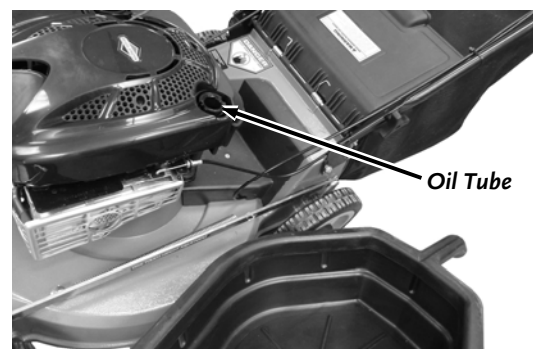

Figure 18
2. Tip the mower onto its side (with the air filter up) to drain the used oil out through the oil fill tube (**Figure 18**). Lower the machine when done.